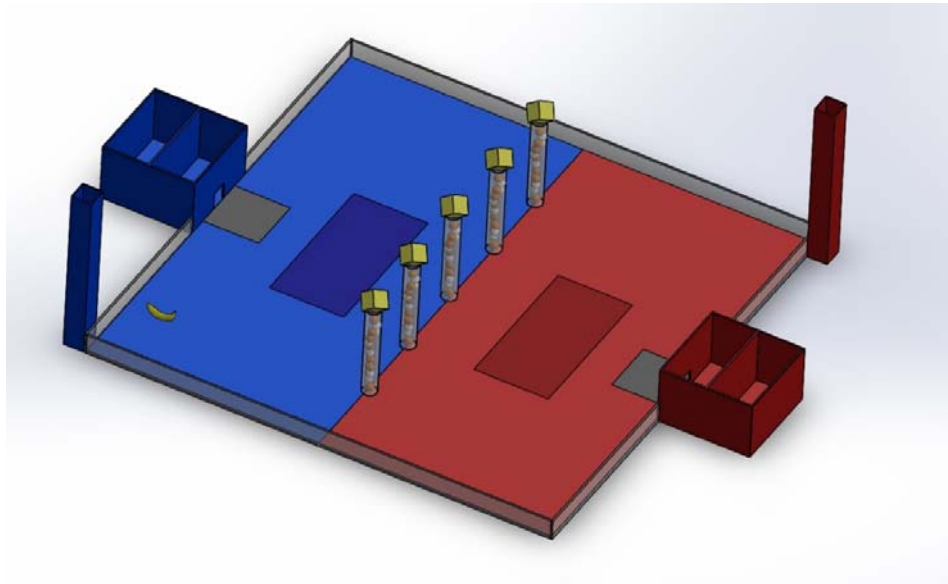

Figure 1: Full Competition Field (Banana Added for Scale)
1. The competition field will be set up in accordance to figure 1.